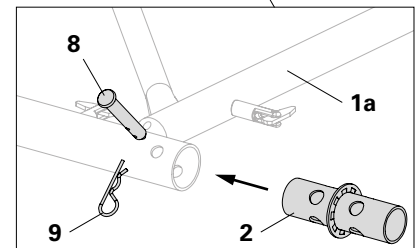

Fig. A2.01c
5. Insert 4x connectors with washers **(2)** into the top of the frame tubes and fasten them with bolts \varnothing 16 x 65/86 **(8)** and cotter pins 4/1 **(9)**. (Fig. A2.01c)